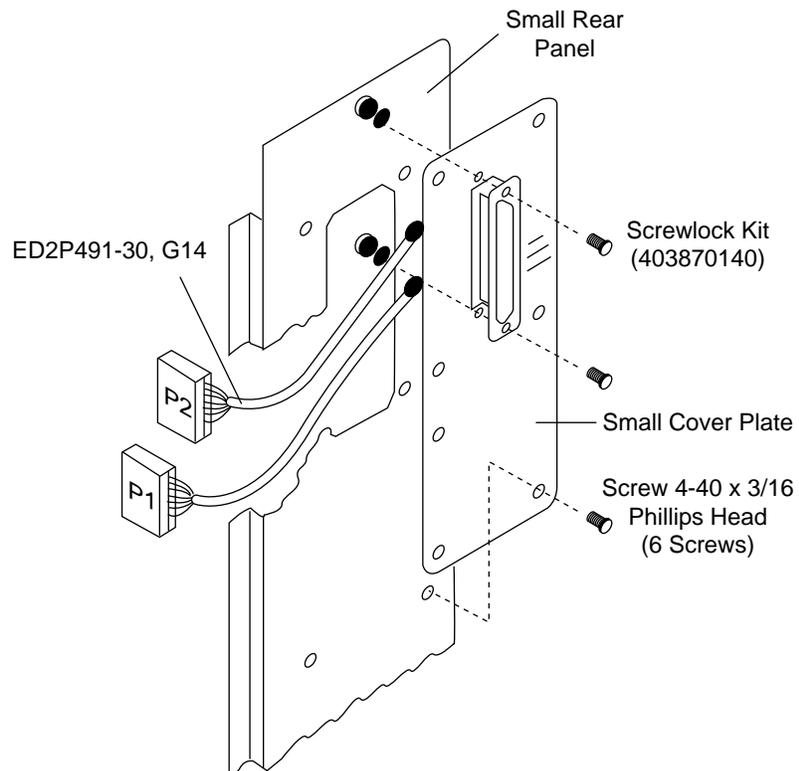

FIGURE 2-4. Installation Details – T1-Trunk I/O Module (Rear View)
5. Connect the P1 and P2 connectors from cable assembly ED2P491-30, G14 to the backplane as shown in Figure 2-4.